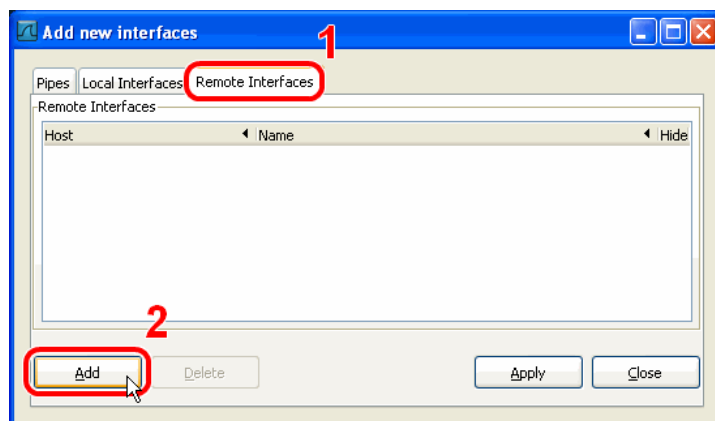

Figure 157: Wireshark Add New Interfaces Dialog.
3. Select the **Remote Interfaces** tab and click **Add** as shown in Figure 157.